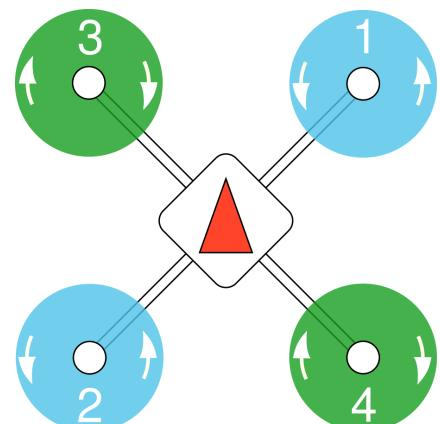

Figure 2.28: X frame motor numbering
- motors are numbered on the 8x3 horizontal PWM signal pin in the following way (Fig. 2.28): 1 front right; 2 back left; 3 front left; 4 back right.